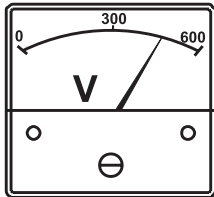

Figure 48. Voltmeter
4. The generator's AC voltmeter (Figure 48) will display the generator's output in **VOLTS**.